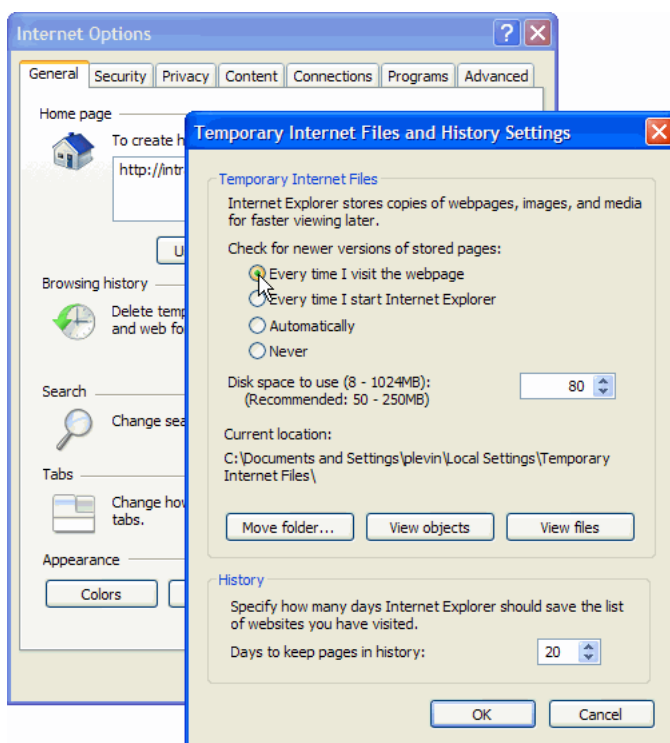

FIGURE 2 Configuring Internet Explorer
4. Click **Every time I visit the webpage** under “Check for newer versions of stored pages,” as shown in Figure 2.